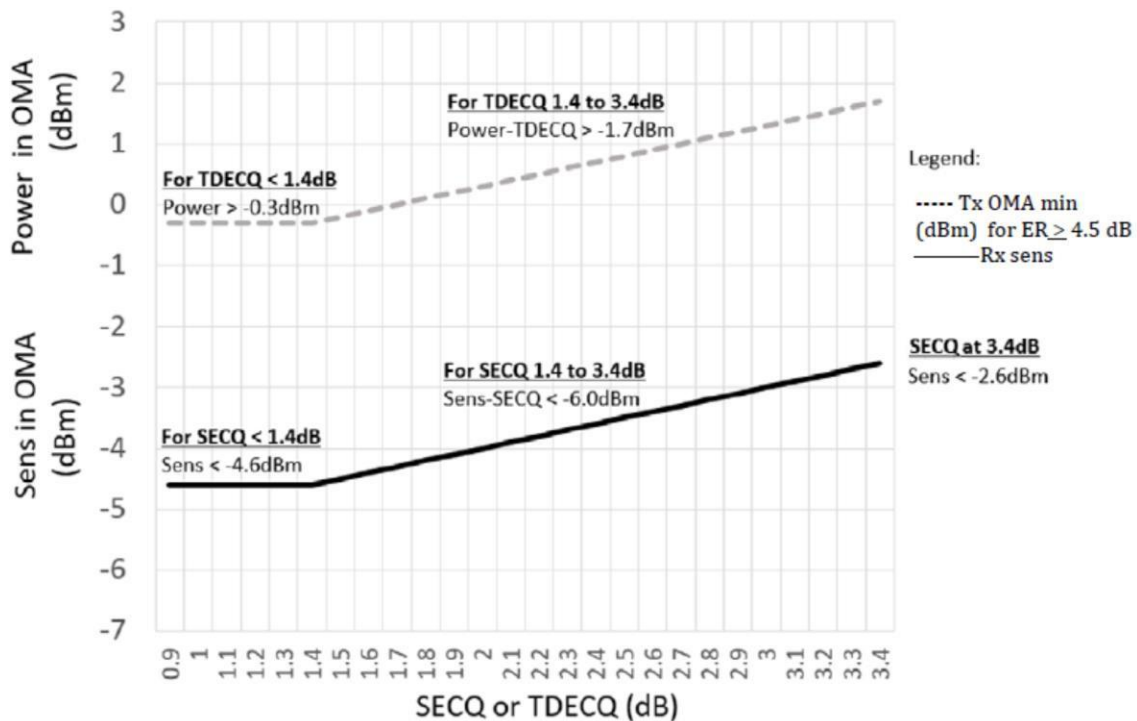

Figure 4. Illustration of Receiver Sensitivity Mask for 400G-FR4
11. Receiver sensitivity (OMA_{outer}) is informative and is defined for a transmitter with a value of SECQ up to 3.4 dB. Receiver sensitivity should meet Equation (1), which is illustrated in Figure 4.